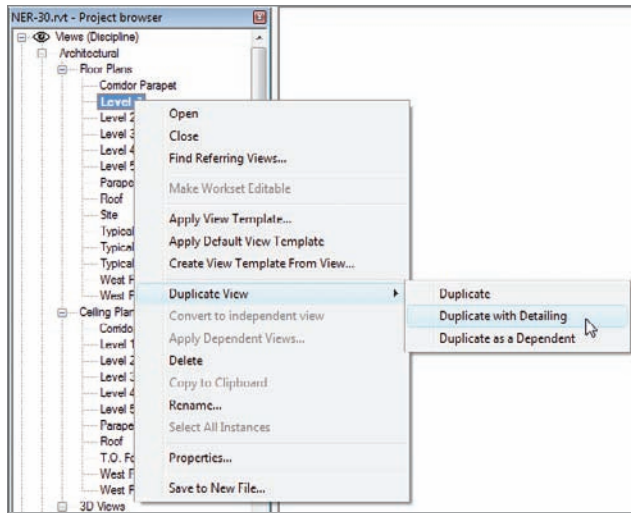

FIGURE 13.1 Right-clicking on the Level 1 Floor Plan in the Project Browser
2. Select Duplicate View > Duplicate With Detailing, as shown in Figure 13.1.